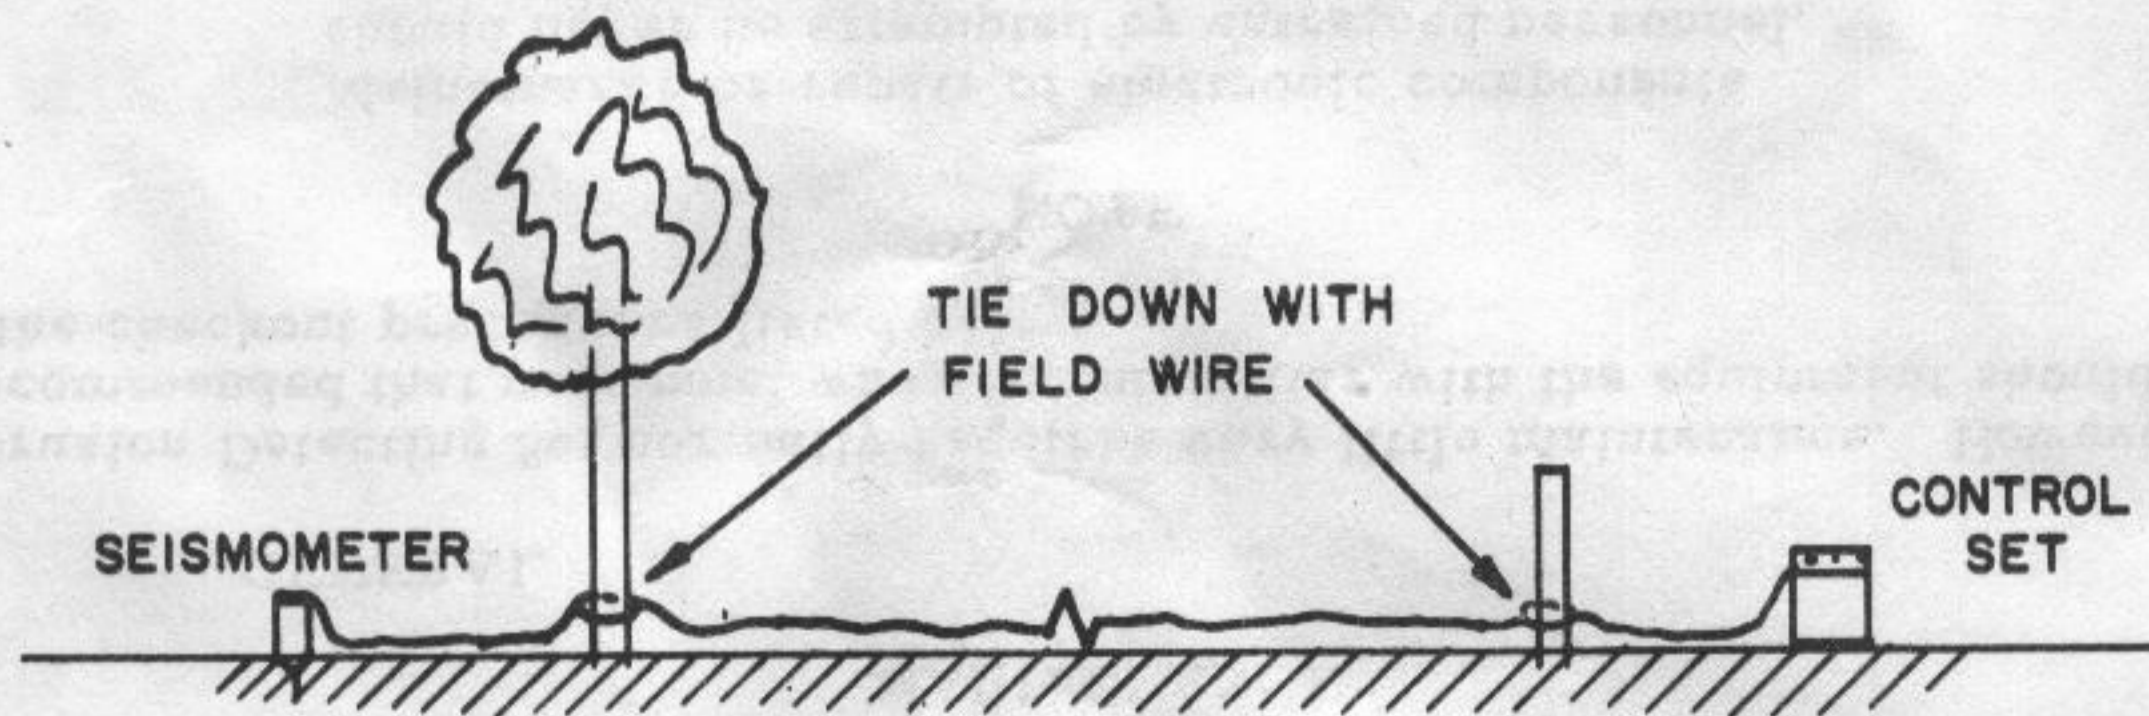

Figure 10. Field Wire Tie-Down Method
(1) Deploy seismometer in surveillance area and connect to control set with field wire (1.5.2.1). Each field wire coming to the control set from the seismometers should be connected to separate pairs of input terminals. The field wire should be tied down (Figure 10) to stationary objects at each end. In addition, the field wire should be tied to the seismometer stress ring about 2 feet from the wire end to prevent accidentally disconnecting leads from the line. If a seismometer is located at a spot where foot or vehicle traffic is expected, bury the seismometer and field wire between seismometer and stationary tie-down. Burying the seismometer in the ground 6 to 8 inches will improve range at most locations. For best performance, the seismometer spike always should point down and be within 30° of vertical.
(2) Connect ground to control set. Connect ground to terminal marked GND. If topsoil is loose, dig a hole so that the ground rod may be inserted into firm soil. In very dry country, it may be necessary to moisten the soil around the spike daily.